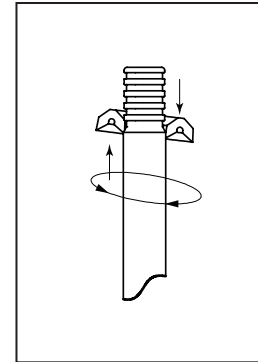

Fig. 12-5
2. Slide male packing expander (D) over stem with flat end toward follower.
4. Carefully install one black "V" ring (C) over end of stem with open part of "V" going onto stem first. The ring will easily fit over grooved portion of stem. To fit ring onto main portion of stem, lean it to one side and turn ring while pressing it onto stem. See Fig. 12-5
5. Install the second black "V" ring (C) followed by the white "V" ring (D) in the same way you installed the first black ring.
6. Slide female packing expander (A) over stem with open "V" groove going onto stem first.